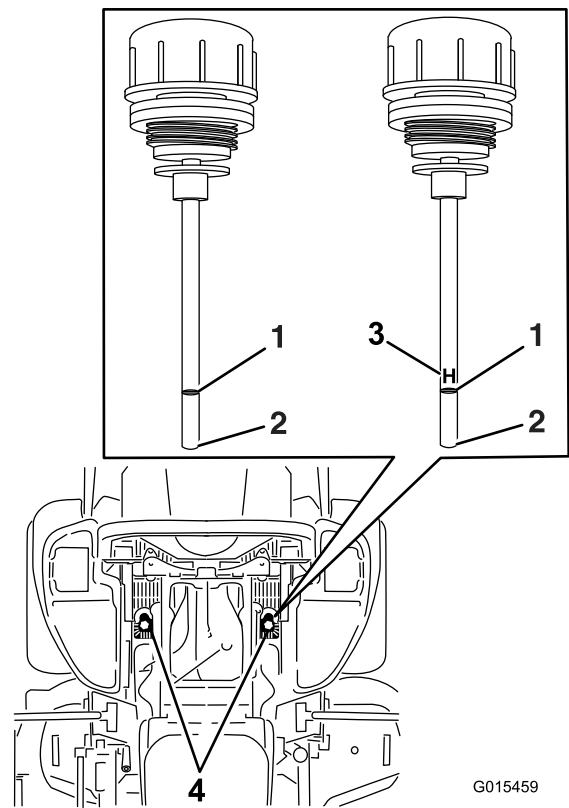

Figure 86
6. Clean the area around the dipsticks of hydraulic-system reservoirs (Figure 86).
7. Remove 1 dipstick from the hydraulic reservoir (Figure 86).
9. Remove the dipstick and look at the end (Figure 86).